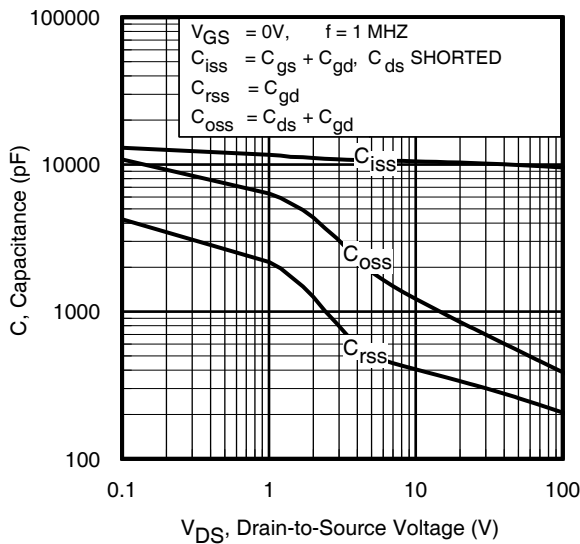

Fig 7. Typical Capacitance vs. Drain-to-Source Voltage
| C _{iss} | Input Capacitance | — | 9700 | — | pF | V _{GS} = 0V V _{DS} = 50V f = 1.0MHz, See Fig.7 V _{GS} = 0V, V _{DS} = 0V to 108V⑥ V _{GS} = 0V, V _{DS} = 0V to 108V⑤ |